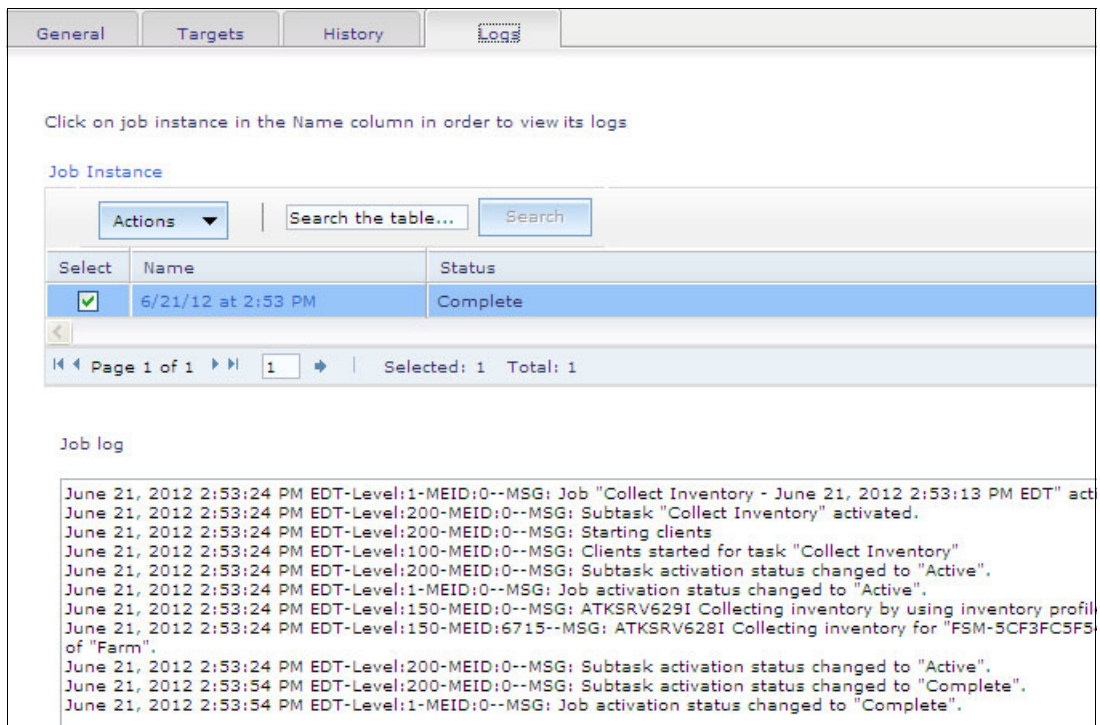

Figure 6-169 Check logs
14. Check the logs as shown in Figure 6-169.